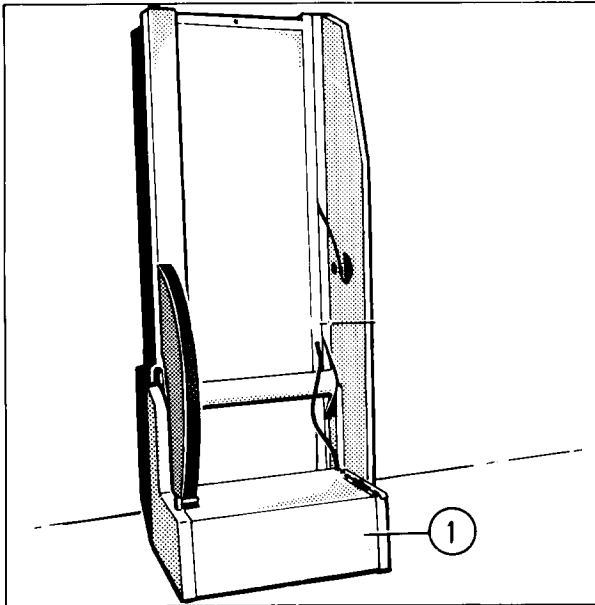

Fig. 1
When unpacking, check the contents of each box to insure that all items are located. Do not discard packing material, envelopes, boxes, etc., until all parts are accounted for. Remove the table base cover (Fig. 1/item 1) by removing the screws. Remove the shipping screws from the pallet. Note: Make sure unit can not tip over.
Reinstall table base trim covers. Refer to (Fig. 1/item 1).